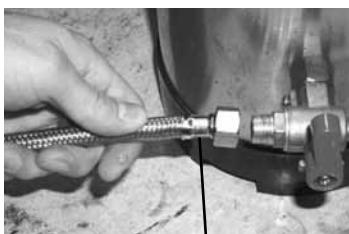

Figure 2
- 2) Connect pipe **36** (1600 mm, provided with the machine) to the tap of water softener with the tap of the coffee machine water system (figure 2 – 3).